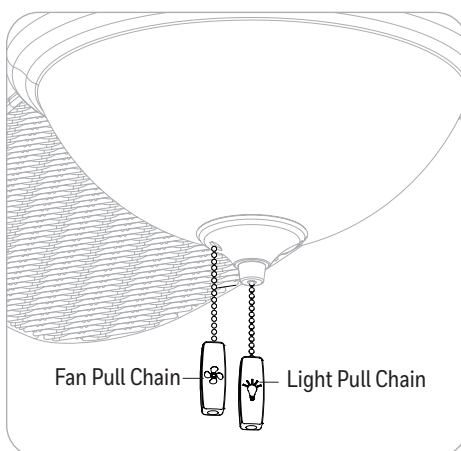

Figure 6.1
1. The fan pull chain has four positions to control fan speed. One pull is high, two is medium, three is low and four turns the fan off. The light pull chain has two positions to control the light, on and off. (Figure 6.1).